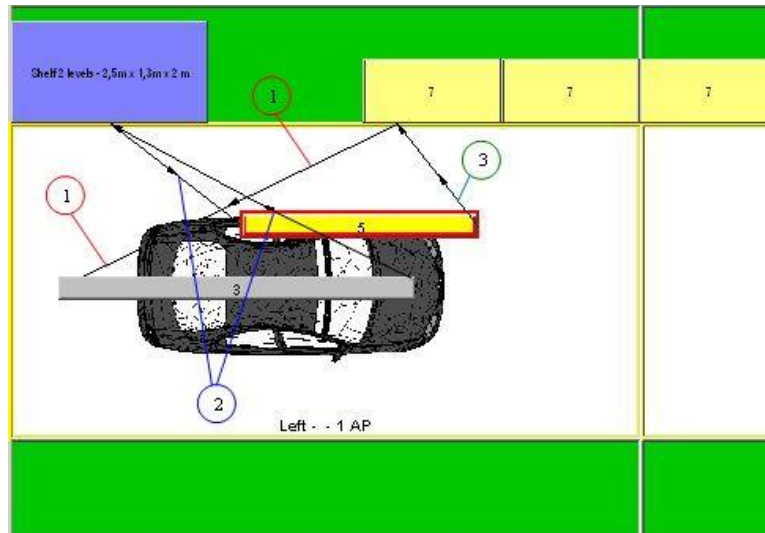

Figure 257: Option is not Activated in all Parts Bins
- An employee fetches the parts for processes in work from the marked parts bin. Please refer to the Figure 257.